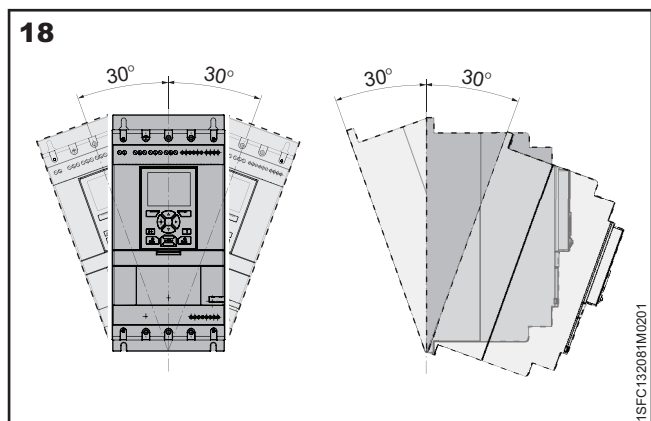

Figure 18: Maximum mounting angle
**i** Make sure that the distances to the surrounding walls are sufficient. The mounting angle shall be within specifications shown in **Figure 18**.
Maximum mounting angle for all PSTX softstarters is 30°, see **Figure 18**.